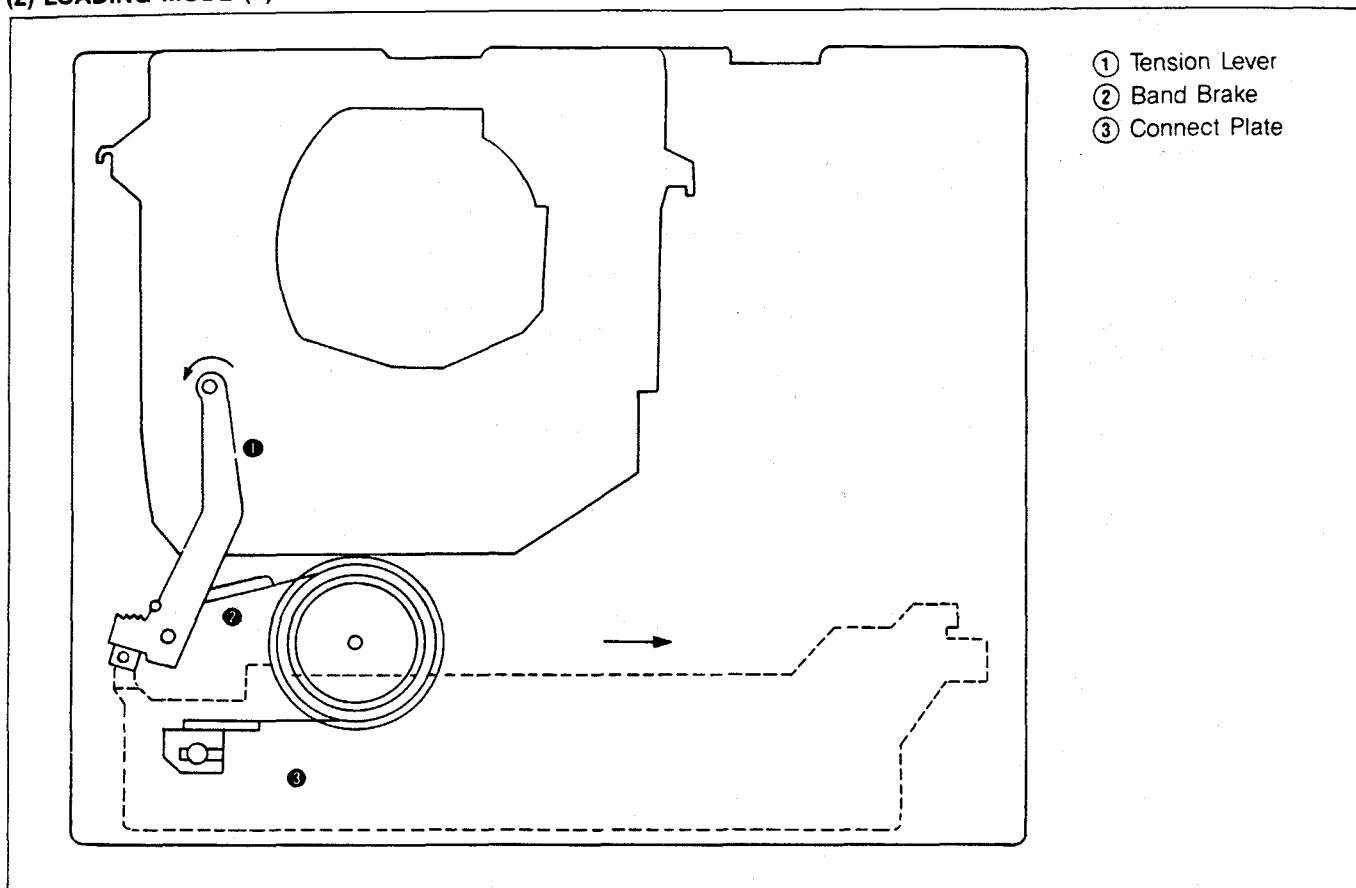

Fig. 48
- The tension arm starts to be rotated ccw as shown in Fig. 48.